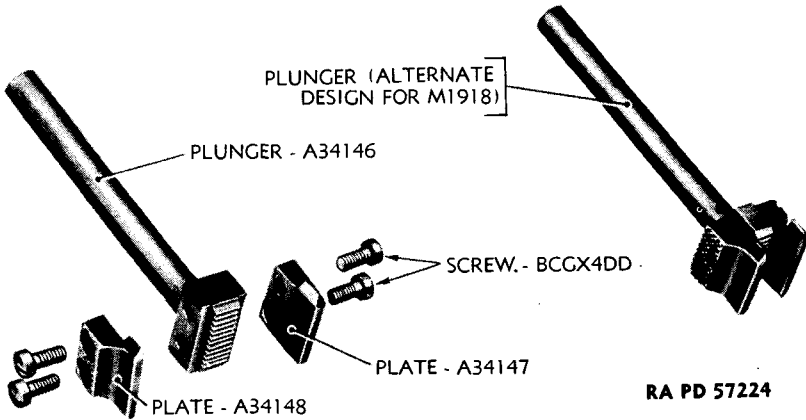

Figure 12—Gunner's Quadrants M1 and M1918—Plungers
(6) **DISASSEMBLE PLUNGER ASSEMBLY** (fig. 12). Remove the four screws holding the two plates to the end of plunger, and remove plates. Scribe mark the plates so that they will be properly replaced.
b. **Assemble Plunger Assembly** (fig. 12). Secure the two plunger plates in their proper places on end of plunger assembly with four screws.